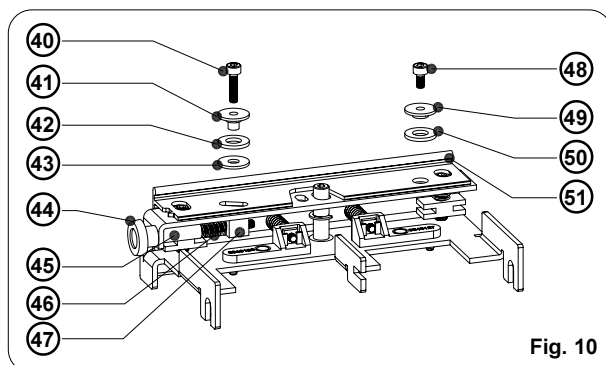

Fig. 10
32. When mounting the ribbon shield (51) (see figure 10), make sure that the collar of bearing 2 (41) will be inserted in the elongated holes of ribbon shield and printhead mounting bracket, and the collar of bearing 1 (49) will be inserted in the hole of the ribbon shield. If all parts are mounted correctly, the ribbon shield can be shifted by turning the thumbscrew (44).
34. During printhead mounting, make sure that the pins (58) are correctly inserted in the holes of the printhead and the printhead is completely secured in the printhead carriage. Otherwise the printhead carriage may be damaged !